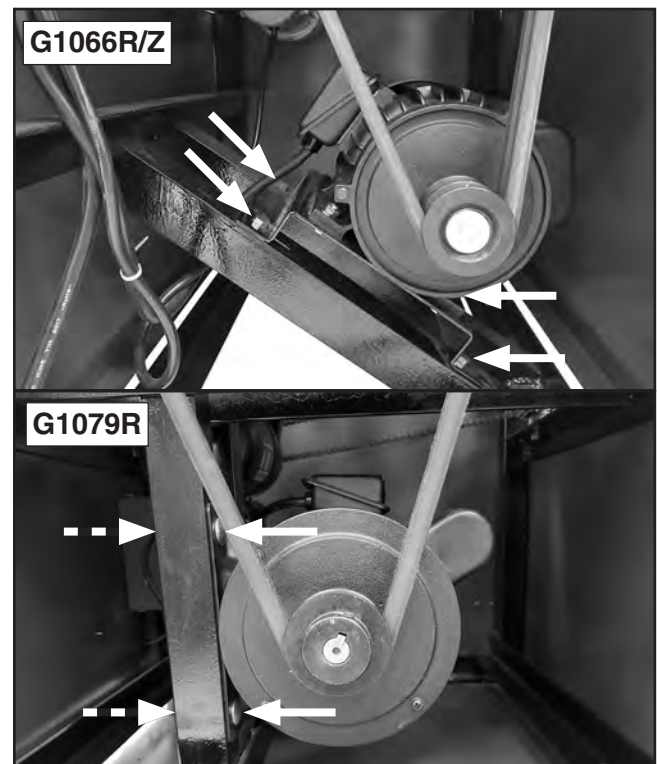

Figure 46. Locations of motor mount fasteners.
3. Loosen motor mount fasteners shown in **Figure 46**. DO NOT completely remove motor mount fasteners.
5. Tighten motor mount fasteners (see **Figure 46**), and re-install right access panel.